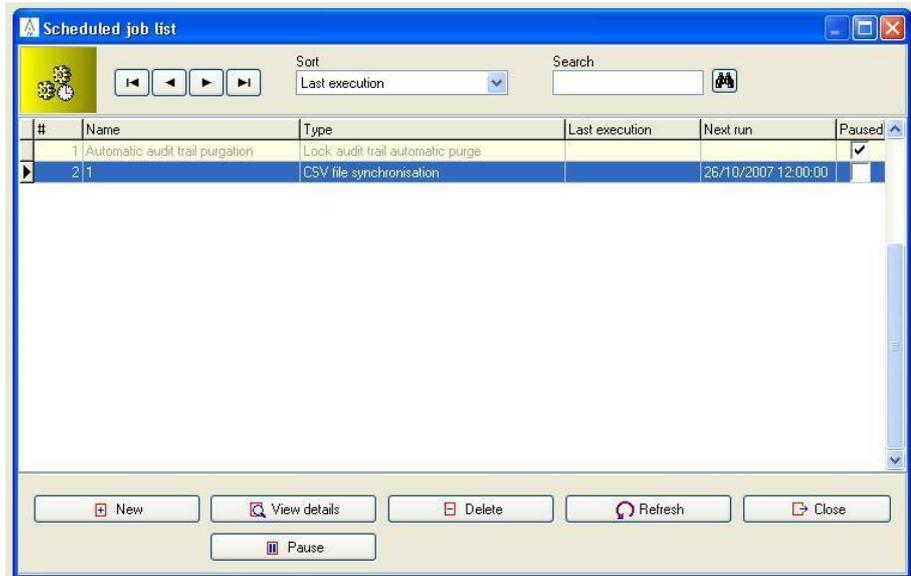

Figure 8: list of scheduled jobs.
When the user is an external one, the operator is only allowed to add/remove internal accesses only, never external ones (see figure 8). Also, the operator must have enough privilege level on that internal elements. That is, even if another department's zone has being shared to current operator's department, this zone could not be assigned to an operator's external user. And even if that zone is internal, if the operator has not enough privilege level to modify that zone, the operator is not going to be able to add/remove that zone. The elements accesses that can not be added/removed or changed, will appear with a red padlock icon.
**Figure 8:** Example of an external user profile. It can be appreciated external elements in a different color and the impossibility to add/remove external zones to an external user.
In figure 8, the external accesses of an external user are shown, but these external accesses could be hidden, by going to "Tools→Configuration→General options" and in the Department window, unchecking the "Show other departments on externals elements" option. This will cause to be hidden external accesses on external elements (see figure 10).
As for the graphic interface, you may create a user synchronization job in two different ways, as seen in the pictures below: either by selecting the 'FILE\IMPORT/EXPORT\SYNCHRONISATION' menu option or the 'TOOLS\SCHEDULED JOBS' one. Whichever option you choose, you end up with a new sync job added to the list of scheduled jobs, as seen in figure 8. You may modify the settings of an already scheduled sync job at any time by clicking on the 'View details' button in the job list window. By doing so, the same wizard will be launched again for you to perform the desired changes.